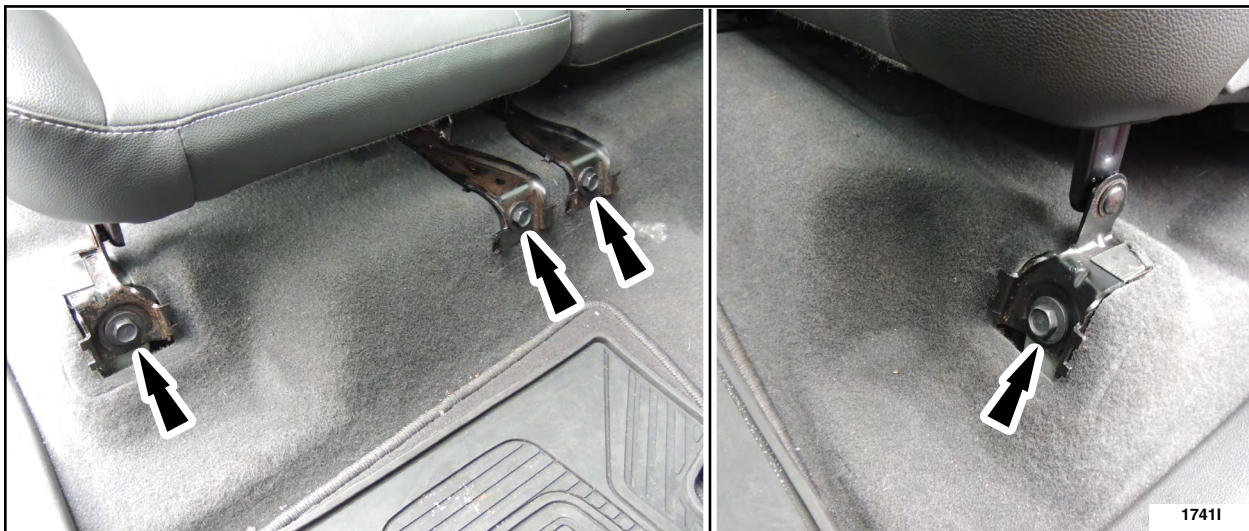

FIGURE 4
2. Remove the RH and LH rear seat cushion lower bolts. See Figure 4. Position both seat cushions up.
4. Position both seat cushions down and reinstall the RH and LH rear seat cushion lower bolts. See Figure 4.